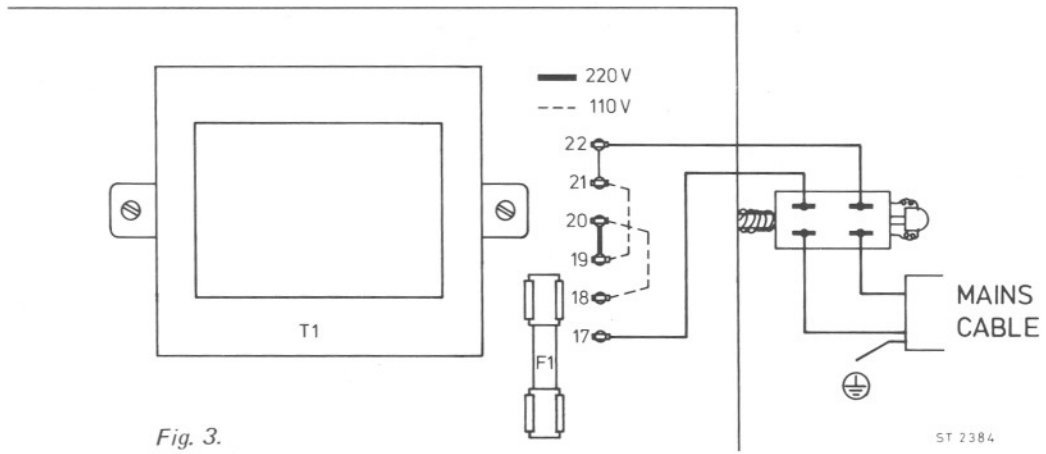

Fig. 3.
Adaption of the instrument for other mains voltages is possible by altering the wiring of the mains transformer (see fig. 3 page 26)
- Change the wiring of the transformer according to figure 3 page 26